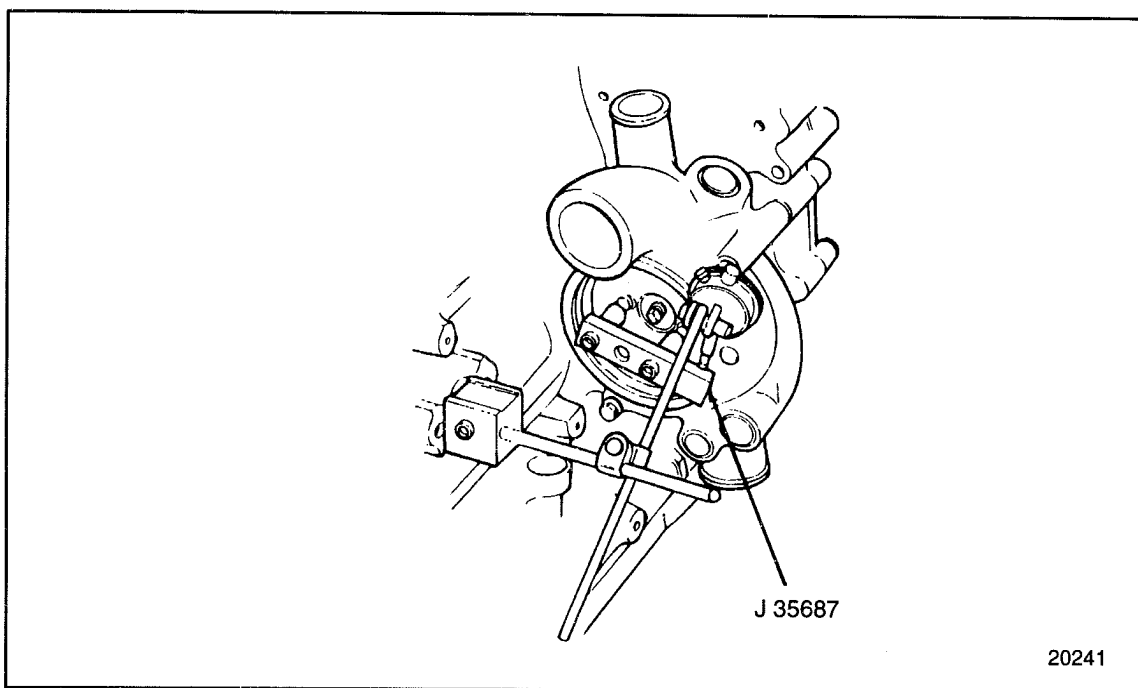

FIGURE 1-263 Water Pump Impeller Slip Tester Method
- [b] Install the water pump impeller slip tester, J 35687, to the water pump impeller with two 5/16-18 bolts, using the instructions supplied with the tool. See Figure 1-263.